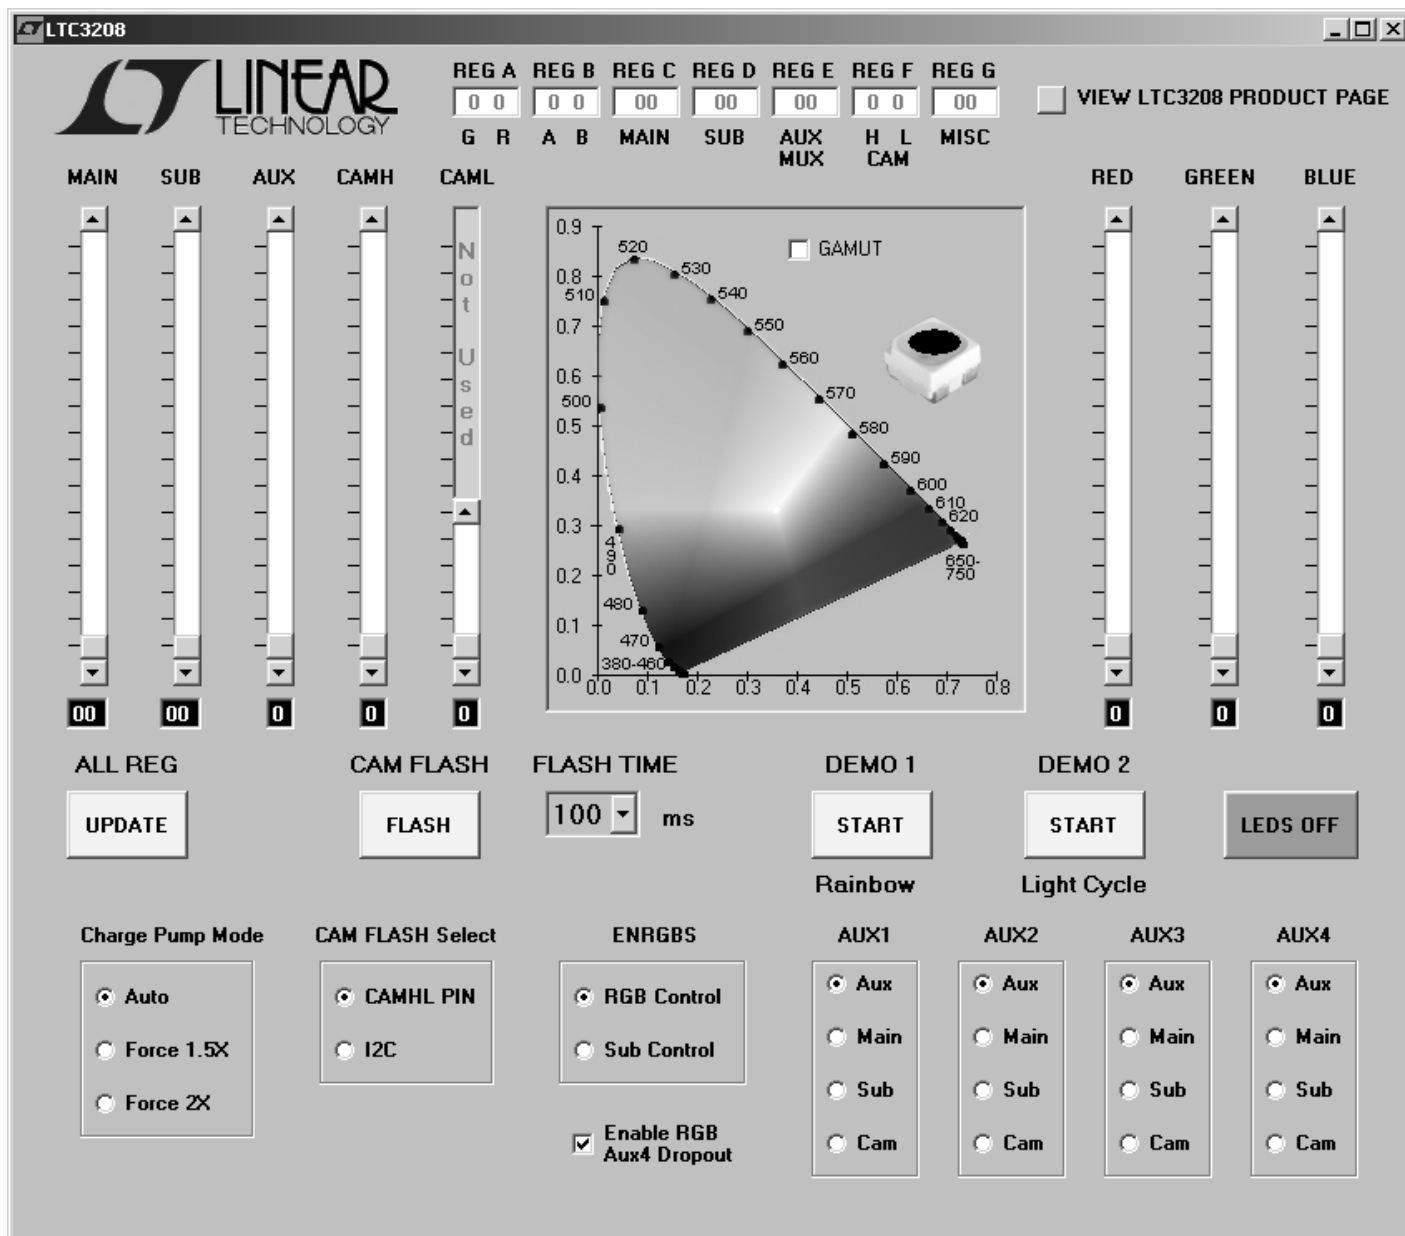

Figure 3. LTC3208 Control Window
5. Run the QuickEvalTM program. The program detects the DC824 and displays the LTC3208 control window (shown in Figure 3).